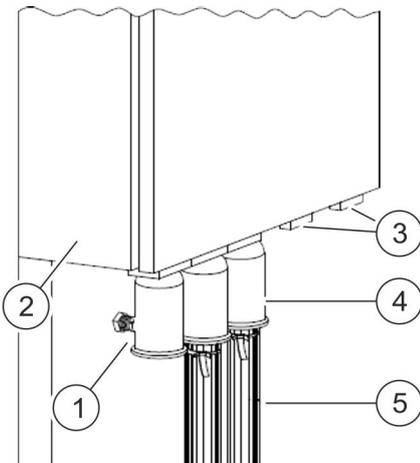

Fig. 16: Electrical connection
1. ➤ Remove the dummy plugs (Fig. 16/3) from the enclosure (Fig. 16/2).
2. ➤ Place the sealing underlay from the inside of the enclosure on the cone of the cable termination (Fig. 16/4).
3. ➤ Secure the cable termination (Fig. 16/4) with the sealing underlay on top of it to the underside of the enclosure (Fig. 16/2) using two screws (M10).
4. ➤ Lead the cable into the enclosure from below, through the protective duct (Fig. 16/5) and the cable termination (Fig. 16/4).
5. ➤ To ensure strain relief and sealing, fix the cable in the cable termination (Fig. 16/4).
6. ➤ Fasten the protective duct (Fig. 16/5) to the cable termination with the cup point screw (Fig. 16/1).
7. ➤ Seal the unused cable terminations with a dummy plug (Fig. 16/3).